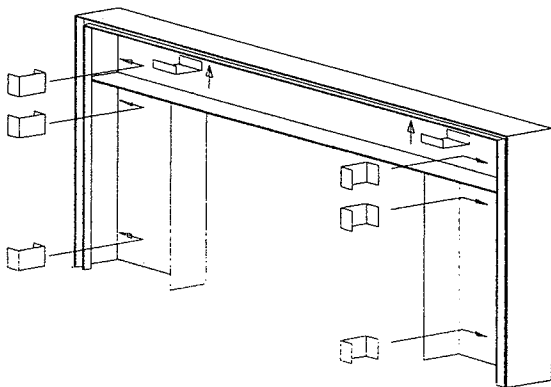

Figure 16a
- 6a. Snap the eight trim retainers in place (see Figure 16a).